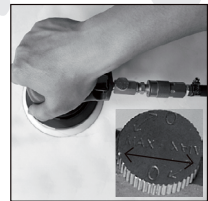

Figure 4
7. Turn the knob in "MAX" position, hold the tool by one hand and slowly press down on the trigger by your palm to the upmost. Then the tool starts to work. (See Figure 4)